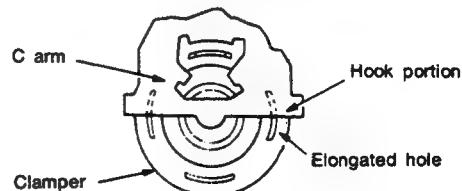

Fig. 6
(7) Replacement of the clamer (Fig. 6)